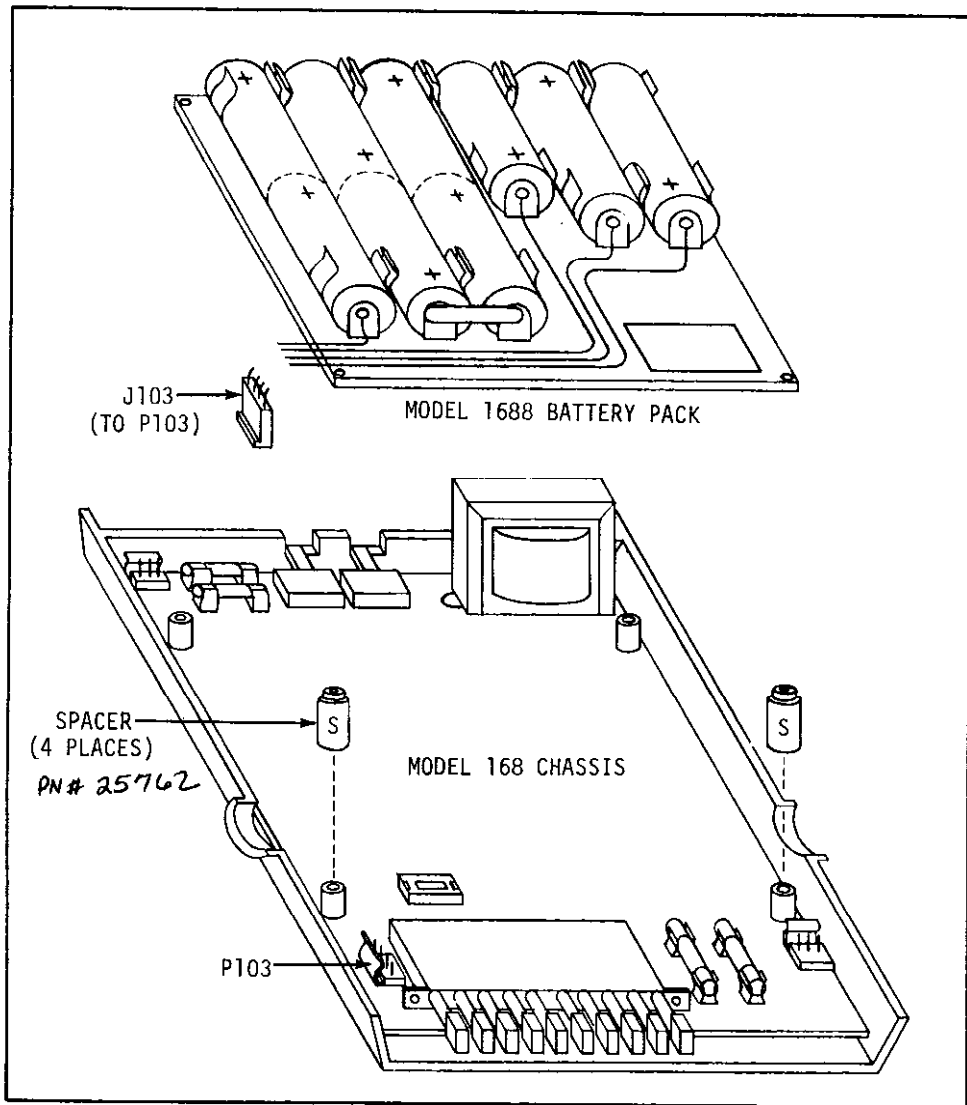

FIGURE 8. Installation of Battery Pack.
1. How to Install Model 1688 Rechargeable Battery Set. The batteries furnished with the Model 1688 come already installed in the battery pack. The battery pack includes 7 rechargeable "C" cells (1.2V, 2 AMP HR) and 2 rechargeable "button" cells (8.4V, .225 AMP HR). If batteries need to be replaced or re-installed, be certain to observe the proper polarity of individual cells as shown in Figure 6. To install the Model 1688 Battery Pack, turn the instrument over so that the bottom cover faces up. Remove four slotted screws on the bottom cover as shown in Figure 4. (A chisel-blade screwdriver is required to loosen the slotted screws.) Turn over the instrument with top cover facing up, taking care to hold the top and bottom covers together. Remove the top cover to gain access to the printed circuit board. Check to see that the four insulating standoffs are in position on the printed circuit board. Place the Model 1688 Battery Pack in position on the standoffs with the cable oriented as shown in Figure 8. Plug the 4-wire connector (J103) into the mating receptacle (P103) taking care to orient the connector as shown in Figure 8. After the Battery Pack is installed, replace the top cover. Turn over the instrument with bottom cover facing up and install the four slotted-head screws.